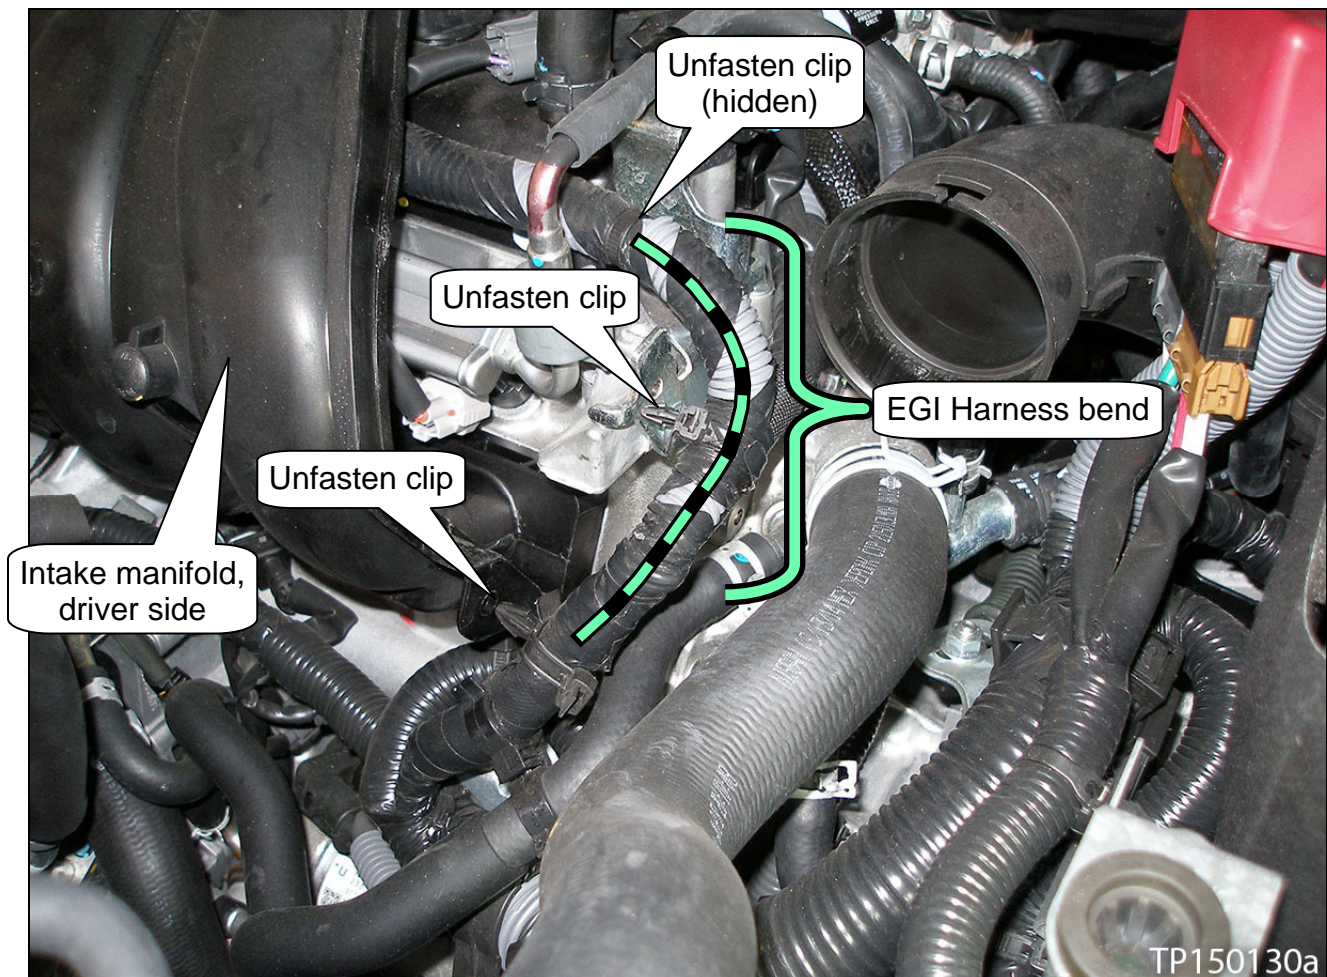

Figure 1
- Locate the bend in the EGI harness where shown in Figure 1.
- Unfasten the three (3) clips where shown in Figure 1.